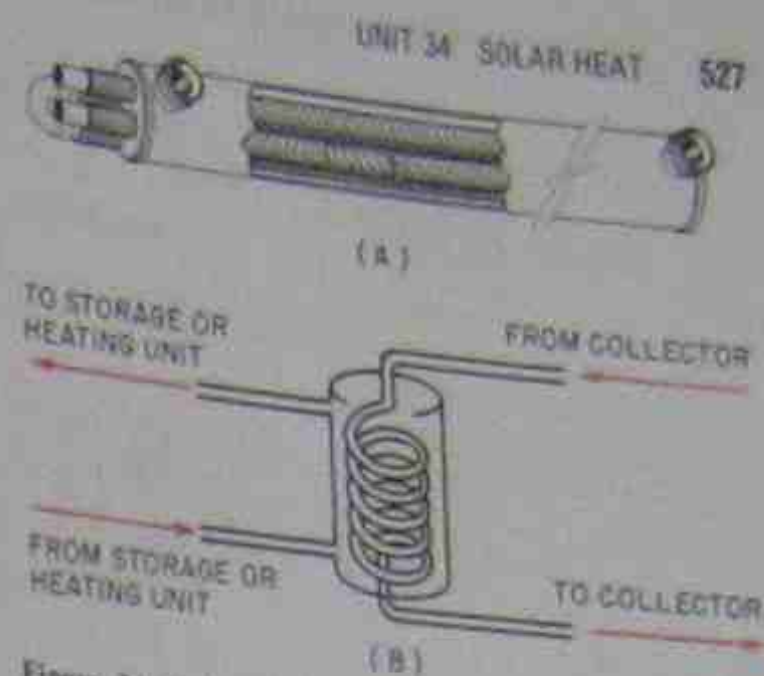

Figure 34-26. Liquid-to-liquid heat exchangers. Courtesy Noranda Metal Industries, Inc.
**Liquid-to-liquid.** In liquid-to-liquid exchangers the liquid-based solar collectors heat the fluid in the collectors. It is then piped into a coil in the storage heat exchanger, Figure 34-26. Heated fluid from the outlet of the heat exchanger is then piped either to the storage tank or to the water heating element, such as a hydronic baseboard heating unit.